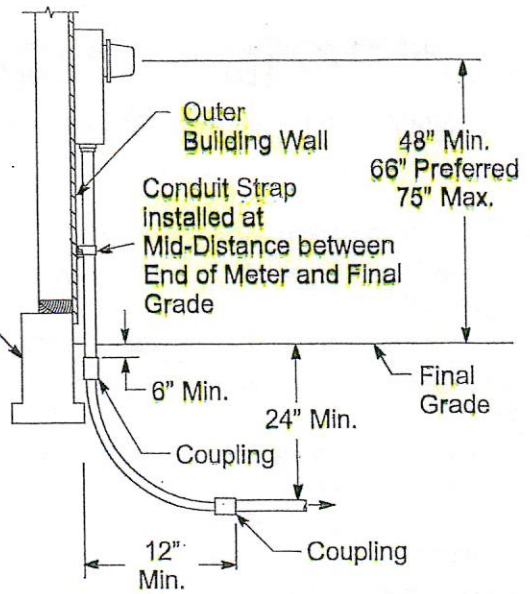

Figure 3
- 7. Mario Romano, PG&E Supervisor/Inspections, Operations Coordination:** Mario spoke to us about the PG&E changes happening for contactors and provided handouts that are available on our website. The PG&E green book standards are changing for the good. He went over the separations chart which gives you the separations from the leach field of 10 ft. One that's new is the tree trunks 5 ft clearance and the propane 20 ft clearance. These are the standards that are getting rolled out to us this leg. The second thing is, it's not the drop-dead date today, that's why they are here to get this information out to the public, because there's a lot of things that will change the way everybody's been doing it for years. One of the changes on the handout 038193 pg. 4 of 27 is the coupler in the wall is not going to be flush with the concrete. It can no longer be plastic swipe to steel riser in the permanent location. The next thing is the wall mount is calling out for a strap figure 3 in the mid distance and the coupler now needs to be 6 inches below final grade. Handout 063927 pg. 4 of 7 shows where they'll need to have a steel riser that needs to be flush with the concrete. The jobs that have been engineered until past this date will be grandfathered in. The coupler material code is a plastic coupler threaded on one side. You will not be able to use the thread because it must be buried in concrete. On the back pg. 5 of 7 Note #1 is the manufactured sweep required conduit